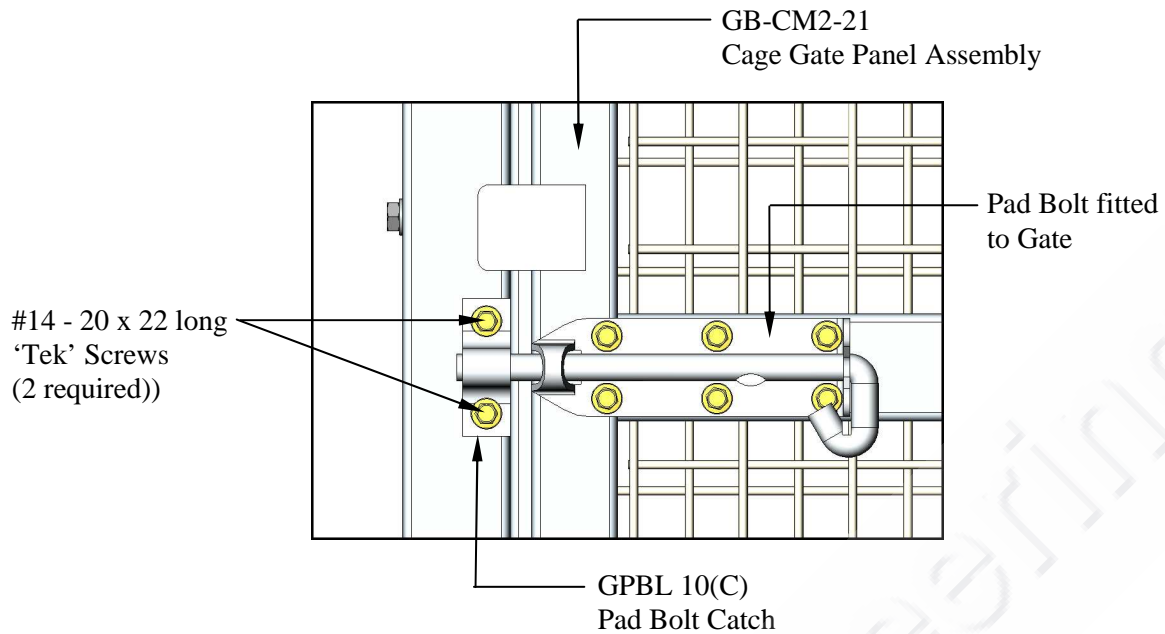

Figure 1.9
- K) With the Gate shut and Pad Bolt closed as shown in Figure 1.9 above, position the Pad Bolt Catch over the Pad Bolt aligning the edge with the inner face of the Side Panel. Ensuring equal clearance around the Pad Bolt, secure the Catch to the Side Panel using #14 – 20 x 22 long ‘Tek’ Screws (Item 21 – 2 required).